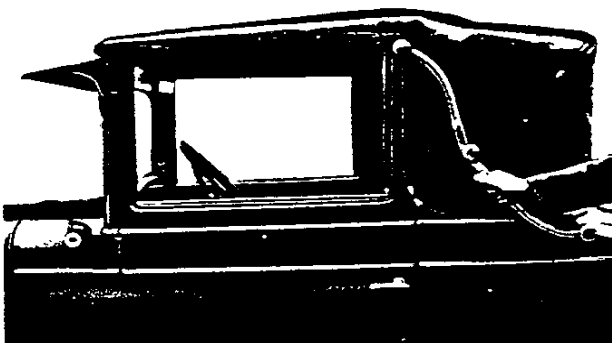

Figure 2
3. Break the landau joint—keep hand below joint to prevent injury. (Figure 2.)